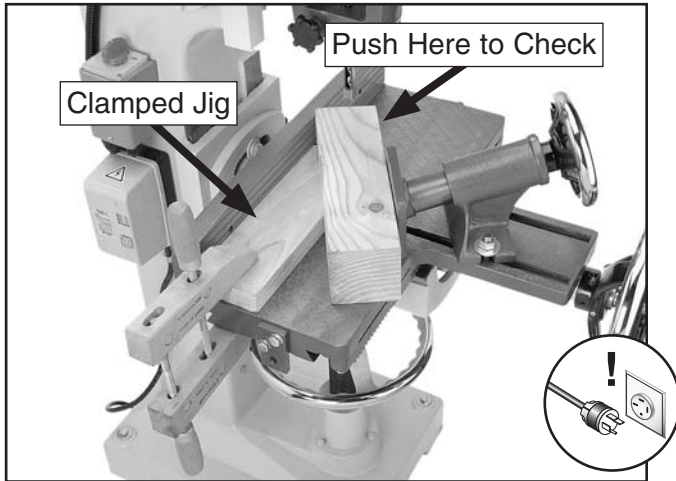

Figure 22. Workpiece clamped at an angle.
2. Clamp a jig to the table and against the fence that will match the angle needed for the mortise (see **Figure 22** for an example).